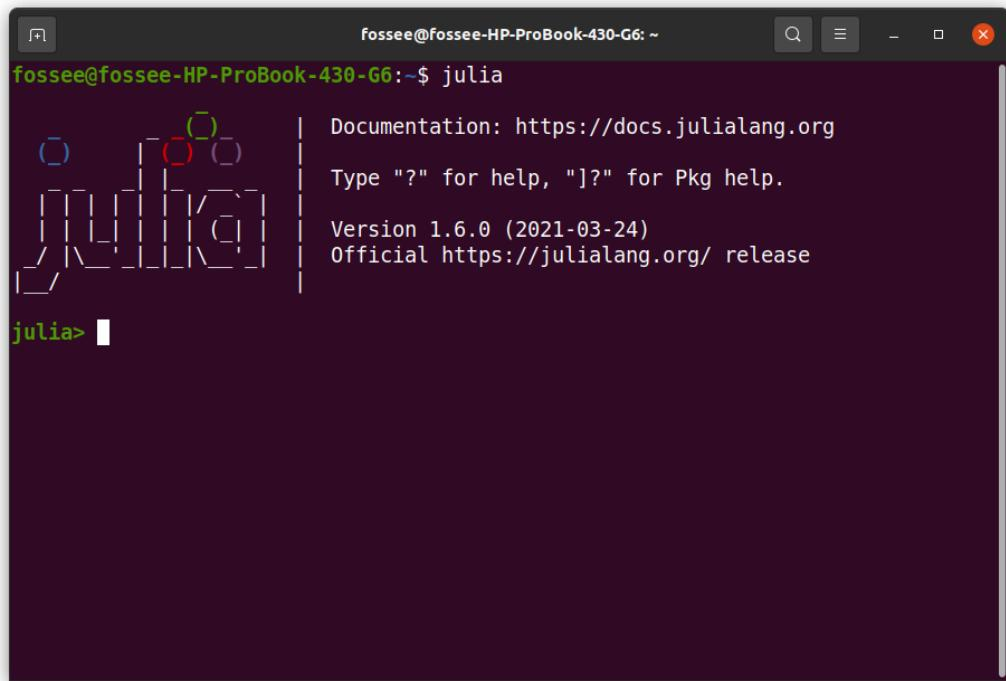

Figure 3.33: Linux terminal to launch Julia REPL
1. Open a Terminal by pressing **Ctrl+Alt+T** keys together. Type `julia` and press Enter. It should launch Julia in an interactive session (also known as a read-eval-print loop or "REPL"), as shown in Fig. 3.33. When run in interactive mode, Julia displays a banner and prompts the user for input. By default, Julia REPL appears in Julian prompt. It is the default mode of operation; each new line initially starts with `julia>`, as shown in Fig. 3.33. It is here
We can also check the status of this package to verify whether it has been installed successfully or not. For this, we need to get back to Julia REPL. Inside **Pkg** REPL, press backspace. The moment you press backspace, you get back to Julia REPL, as shown in Fig. 3.33. Now, type **using Pkg** and press Enter. This command will not generate any output. Now type **Pkg.status()** and press Enter. It should display the list of packages installed in Julia's environment. Please make sure that